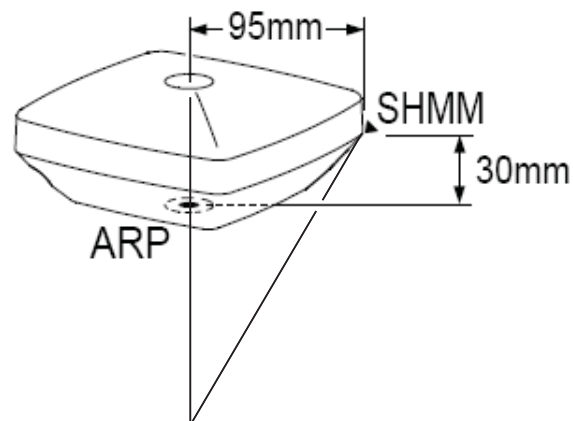

Figure 25: Antenna Height Measurement Points
1. Measure the antenna height above the control point or marker, either the slant height or the vertical height. You may either measure the vertical height to the Antenna Reference Point (ARP) located at the bottom of the receiver at the base of the mounting threads, or measure the slant height to the Slant Height Measurement Mark (SHMM) on the side of the receiver. For ARP and SHMM marks on the receiver, see Figure 25.